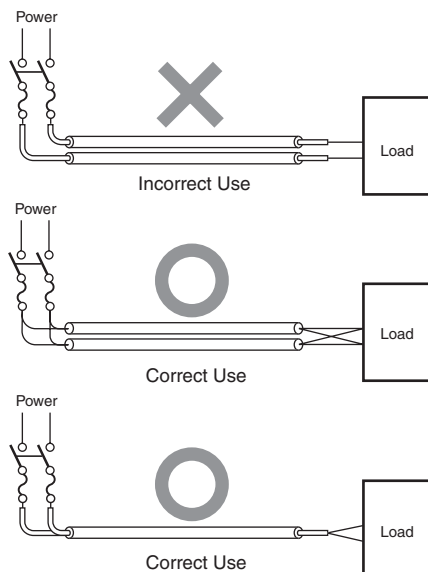

Figure 10. Parallel use of Electrical Wires (single phase)
- ③ When using conduits in the course of wiring, the wires from one circuit should not place wires for a single circuit in separate conduits as the pipes heat up. (See Figure 10)